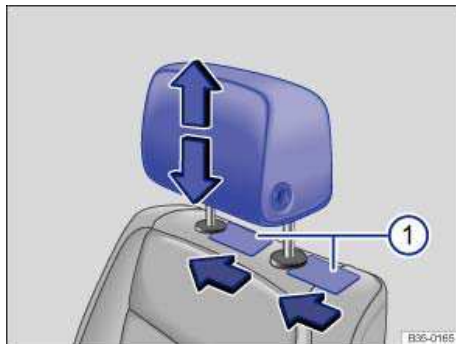

Fig. 45 Removing the front head restraints.
- On each side of the seat, slide a flat object, such as a plastic credit card, between the seat backrest and the cap of each head restraint guide rod ⇒ fig. 45 \(1\) to unlock the head restraint. Press lightly at the same time to release the rods.